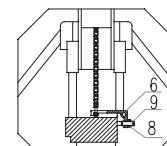

Fig.4
The screw 9 in figure 4 is used to adjust the truck situation. When the truck body drops immediately after it's lifted, turn the screw (9) a little counter-clockwise.